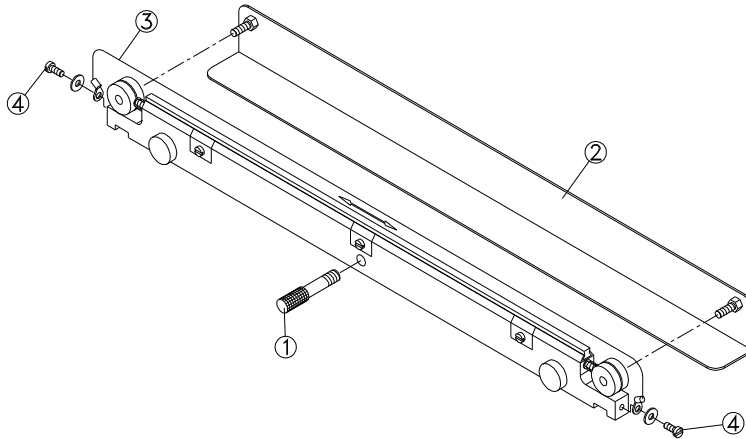

Fig. 10
Remove the plug from the mains supply and see fig. 10. The sealer is supplied with a pressure bar with a cutting wire and can easily be removed from the machine. The cutting wire is used to cut the seal into two parts throughout the length. Remove the pressure bar by unscrewing the castellated screw (1) and taking out the pressure bar. Position the pressure bar in the supplied support (2).
The sealer is standard supplied with a pressure bar which can easily be removed. Remove the pressure bar from the pressure arm and position the pressure bar into the special supplied support (2) and remove the cutting wire (see Ch. 8.4). The rubber can be removed by pulling it out of the profile. Now, the new press rubber can be slide into the profile. Attach the cutting wire again using the special support (see fig. 10).